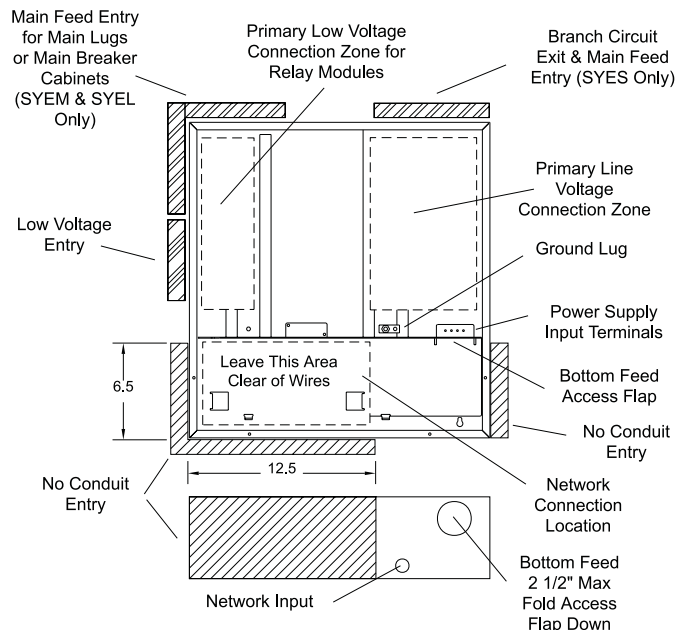

Figure 3 - Recommended Conduit Entry Locations
3. Do not install conduit where "No Conduit Entry" is noted in figure 3.
3. **Choose Conduit Entry Locations** — Choose desired location of main feed entry and branch circuit exit from the cabinet. Choose desired entry points for low voltage inputs, and network wiring. See *Figure 3*. Bottom access is allowed only where shown in *Figure 3*. Top access is strongly recommended.